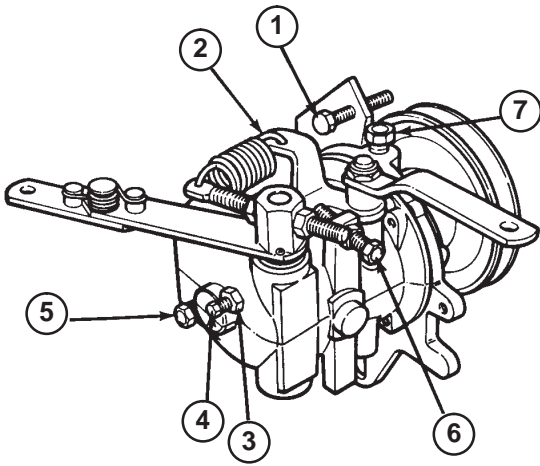

Figure 34
6. Slowly move throttle to FAST position until engine speed reaches 3200 ± 100 rpm. Shut off engine. Adjust high idle stop screw until it contacts speed control lever (Fig. 34).
8. Check V–belts from engine to governor pulley and assure they are tight. If belts are loose, the engine will surge. If belts are tensioned properly, loosen jam nut that retains the anti–surge screw (Fig. 34). Rotate screw clockwise 1/8 turn at a time until surging stops. Should governor continue to surge, check the following:
- Clean area around check plug on governor (Fig. 34)